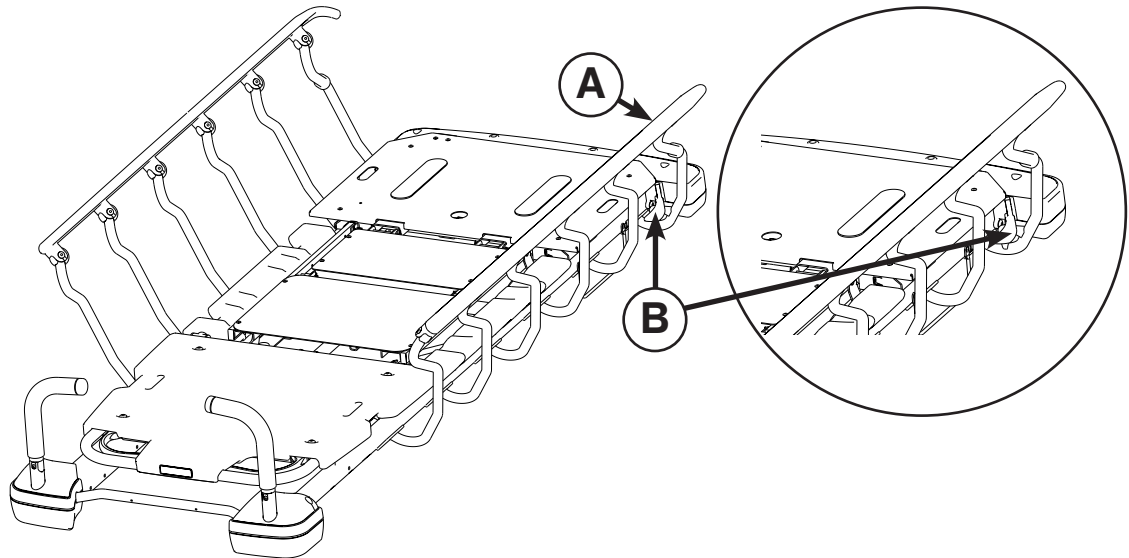

Figure 13: Siderails
To raise the siderails, pull up on the siderail (A) and raise it to the highest position until the latch (B) engages as shown in Figure 13.
To lower the siderails, pull up on the latch (B) and guide the siderail to the lowest position as shown in Figure 13. The latches (B) are colored yellow for easy identification.